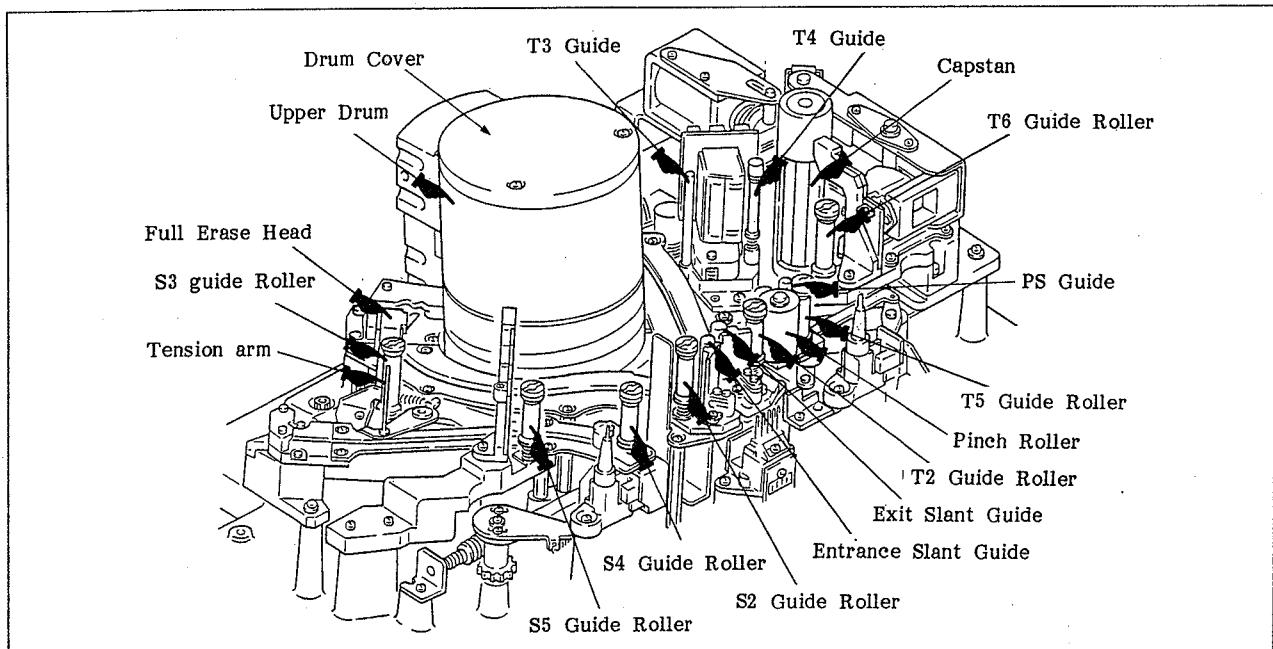

Fig. 5-4 Cleaning the Tape Running System
1. Clean the portions marked by ~~■~~ shown in Fig. 5-4, with a cloth (or gauze) moistened with alcohol.
5. Confirm that the RF waveform meets the standard shown in Fig. 5-4. If it does not meet the standard, perform the tracking adjustment according to section 9-5-2.